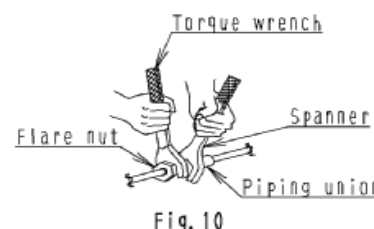

Fig. 10
- Be sure to use both a spanner and torque wrench, as shown in Figure 10, when connection or disconnecting piping to/from unit.